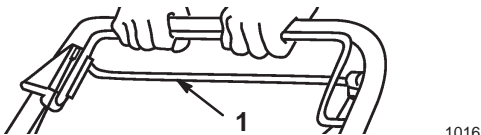

Figure 15
2. To disengage the self-propel drive, release the self-propel drive bail (Fig. 15).